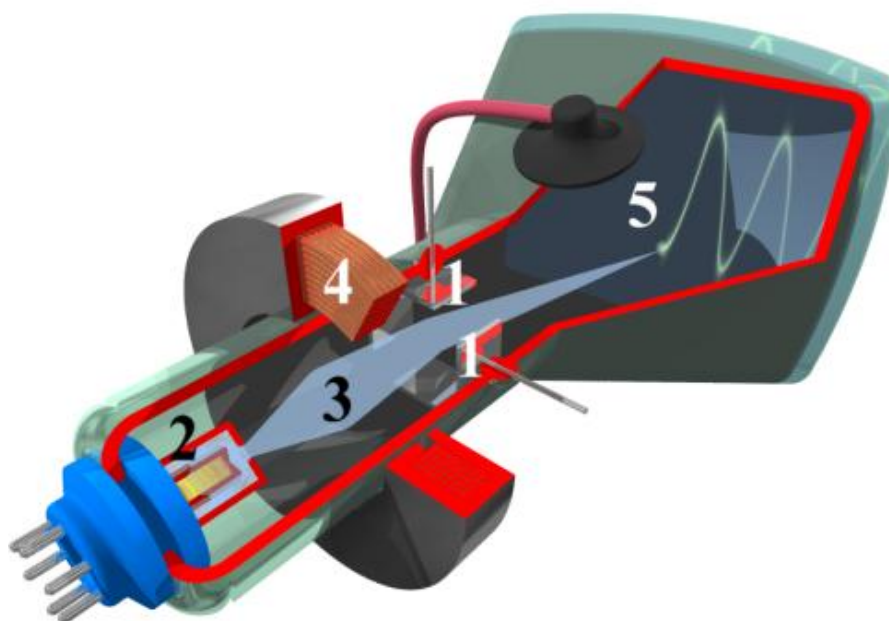

Figure 95 Diagram of a CRO tube (Diagram from Wikimedia Commons)
Refer to *Figure 95*. Electrons are boiled off the filament of the **electron gun** (2) and are **accelerated** by the anode to form a **beam** (3). The beam is focussed by a **magnetic coil** (4) to give a sharp image on the **phosphor screen** (5). When you adjust the **focusing knob** on the control panel, you are adjusting the current through this coil. Another pair of coils allows you to adjust the **position** of the beam on the screen. (This can be quite temper-trying!)